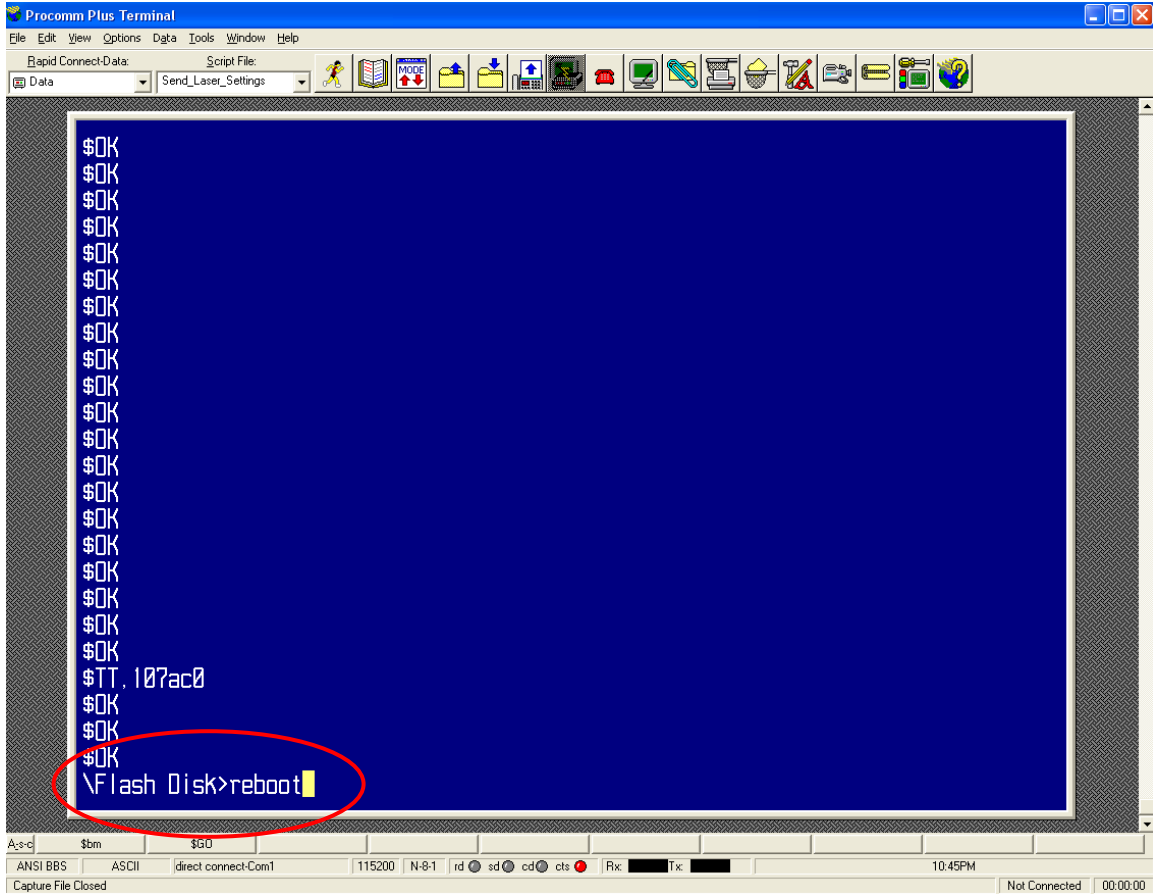

Figure 39
10. After the script stops, press ESC three times to exit the Passthru utility. The system will respond with the \Flash Disk> prompt (fig 39).